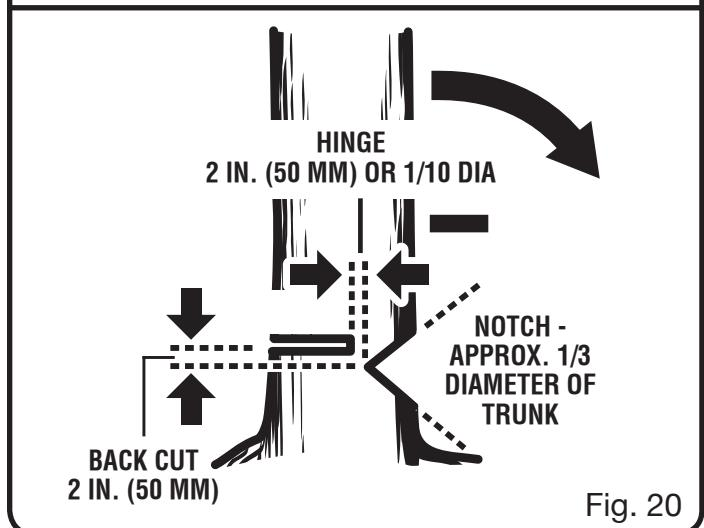

Fig. 20
- **Notched Undercut.** Cut a notch about 1/3 the diameter of the tree as shown in figure 20. Make the cuts of the notch so they intersect at a right angle to the line of fall. This notch should be cleaned out to leave a straight line. To keep the weight of the wood off the saw, always make the lower cut of the notch before the upper cut. *See Figure 20.*
- **Felling Backcut.** The backcut is always made level and horizontal, and at a minimum of 2 in. above the horizontal cut of the notch. *See Figures 20 - 21.*
- Never cut through to the notch. Always leave a band of wood between the notch and backcut (approximately 2 in. or 1/10 the diameter of the tree). This is called "hinge" or "hingewood." It controls the fall of the tree and prevents slipping or twisting or shoot-back of the tree off the stump. *See Figures 20 - 21.*